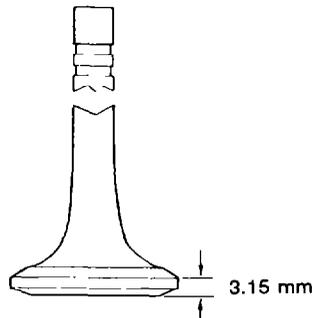

Figure 9 — Valve Head Rim Thickness
- a. Clean the valves using a crocus cloth, then inspect all valves for damage or distortion. Measure the valve head rim thickness (see Fig. 9), which must be greater than 3.15 mm (0.124 in.). Discard any damaged or out of specification valves.